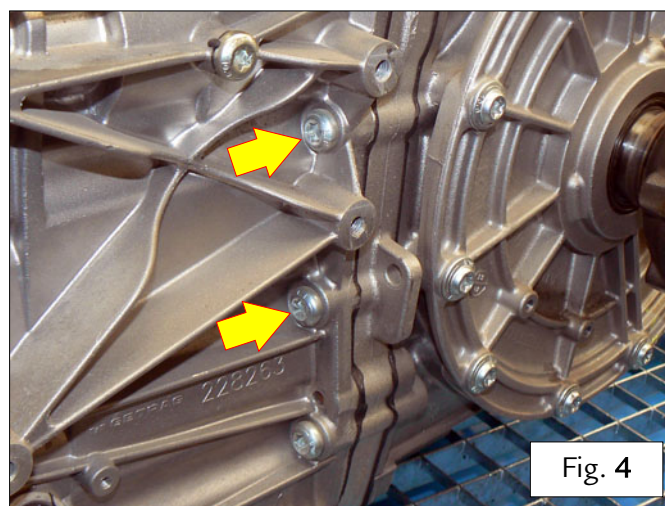

Fig. 4
- On the right hand side of the DCT gearbox, undo and remove the indicated screws – Fig. 4.
- Remove the adapter (3) – Fig. 4.